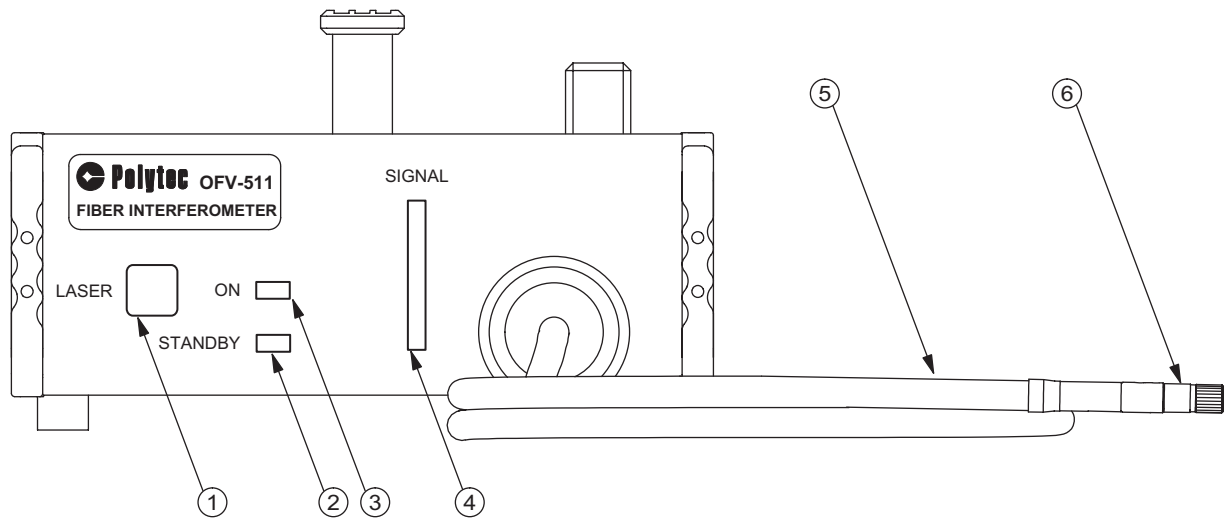

Figure 2.1: Front view of the sensor head OFV-511
**Front panel** The front panel of the sensor head OFV-511 is shown in figure 2.1.